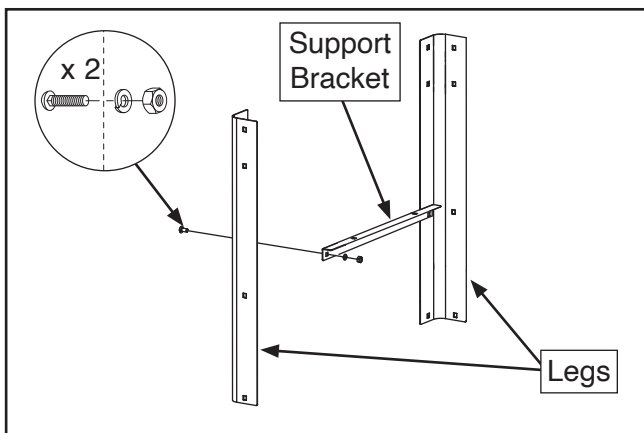

Figure 3. Installing support brackets.
1. Attach (1) support bracket to (2) legs with (2) M8-1.25 x 20 carriage bolts, (2) 8mm lock washers, and (2) M8-1.25 hex nuts. Repeat with remaining (1) support bracket and (2) legs (see **Figure 3**).